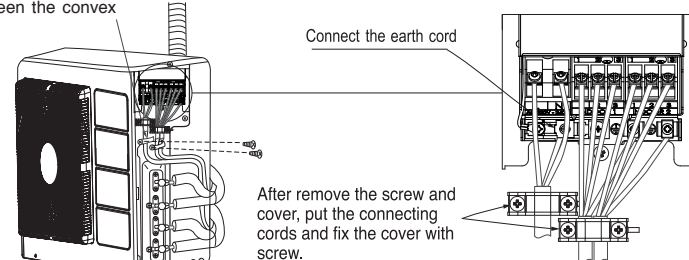

Fig. 1-3
- Connect the connecting cord and power cord to the terminal board. (Fig. 1-3)
- Fix the connecting cords and power cord with steel band certainly. (Fig. 1-3)